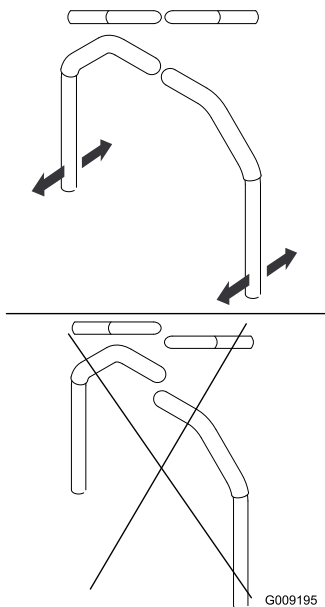

Figure 84
4. Align the levers in the front-to-rear position by bringing the levers together to the neutral position, and slide them until they are aligned, then tighten the bolts (Figure 84).